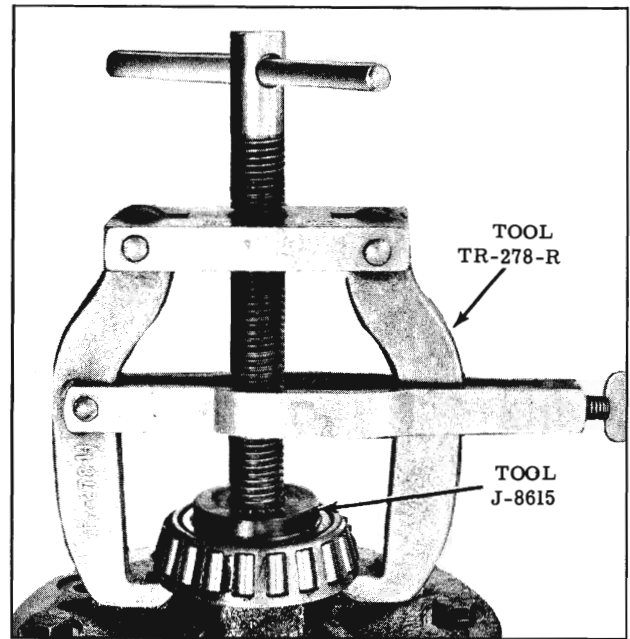

Fig. 6-111 Removing Side Bearings
1. Insert Adapter J-8615 and pull bearing using Puller TR-278. (Fig. 6-111)